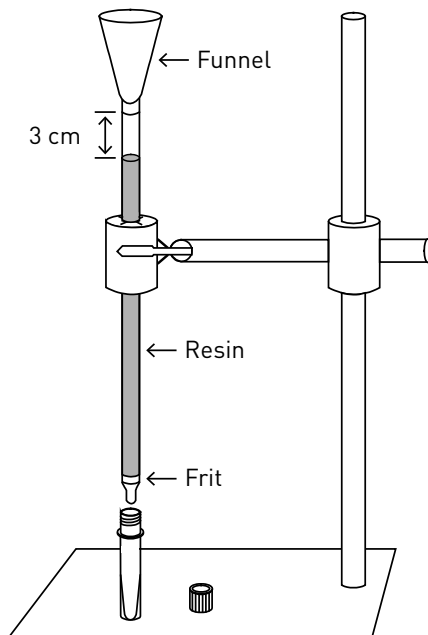

Figure 1
- 6. Prepare purification column/resin:** Assemble the purification column as shown in Figure 1. Add purification resin (Component C) up to ~3 cm from top. Check buffer flow-through with 1X PBS. If buffer flow stalls, remove the resin, clear the frit, then repack the column with resin/buffer. Allow the excess buffer to drain before loading the labeled protein.